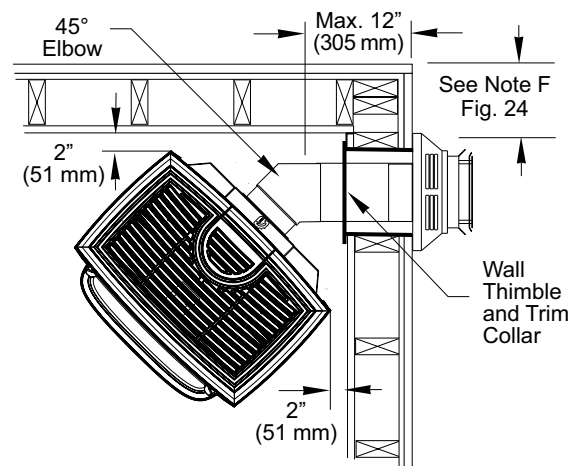

Figure 5.16.
- One 45° Elbow may be used for a corner installation as shown in fig. 5.16.